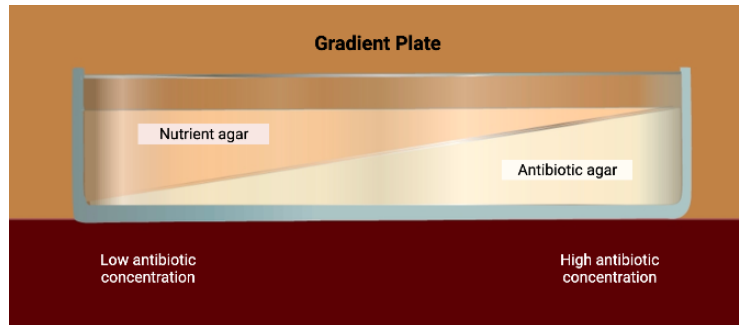

Figure 2: Schematic of gradient plate adapted from here.
2. On your producer plate, you might see that some of your colony streaks have a cleared “halo” around them (Figure 2). This is a sign that they have secreted an antibiotic capable of killing the surrounding *E. coli*! Make note of any species that did this.